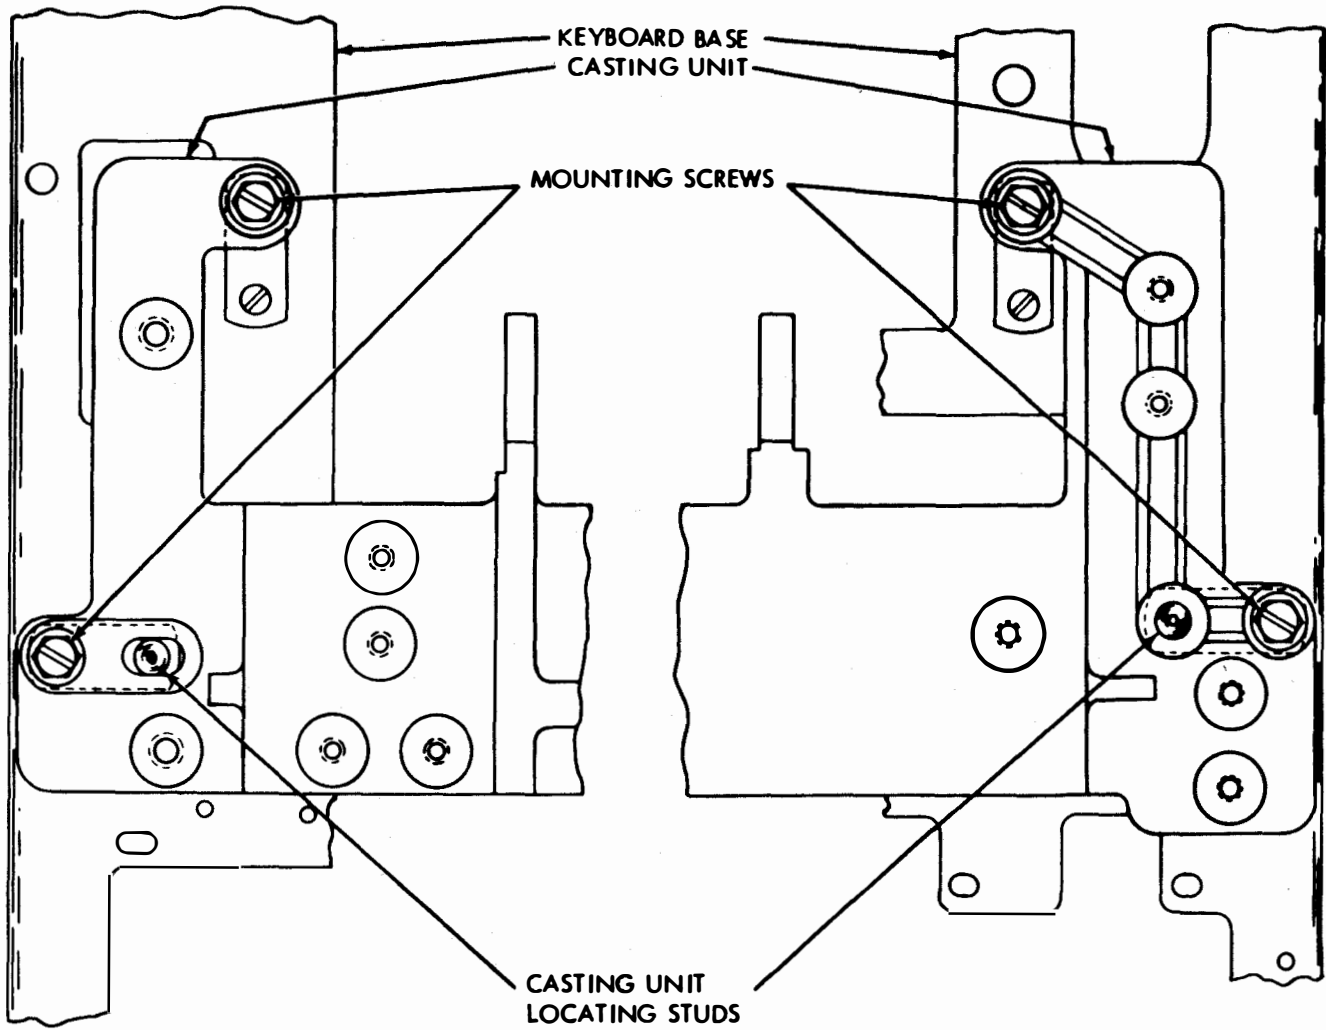

Figure 6-106. Keyboard Base Casting Assembly
(1) Refer to figure 6-106.
(2) There should be barely perceptible backlash between casting assembly main shaft driven gear and its driving gear at point where backlash is least.
(3) Place front feet of casting assembly over locating studs on keyboard base.
(4) Loosen mounting screws and position casting assembly by use of oversize mounting holes.